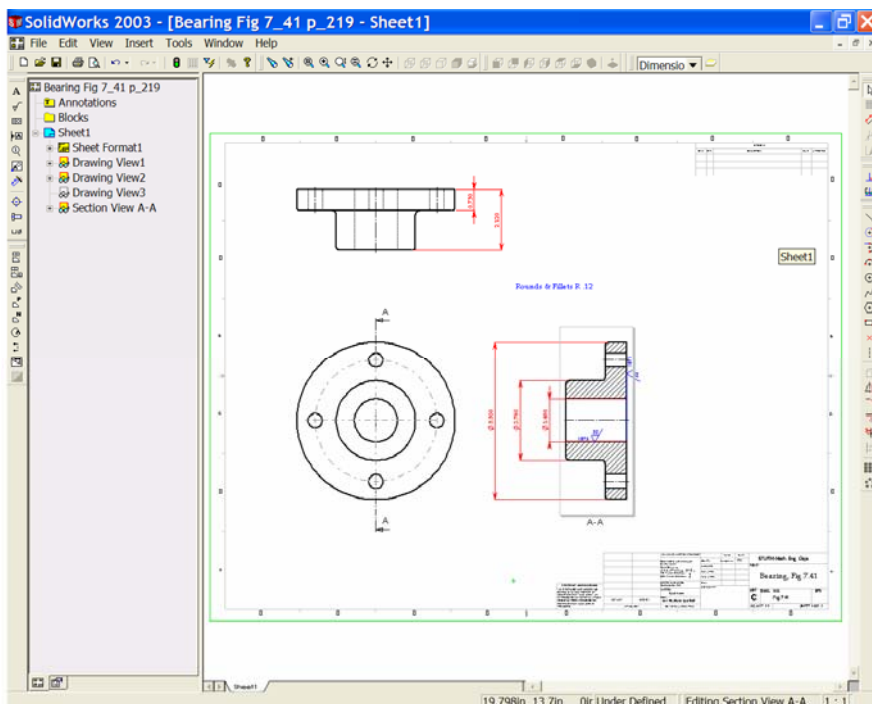

Figure 10
15. Create layers for Dimensions and for Machine Symbols. Set the machine symbols layer current and add the symbols as shown in Figure 10. The R_a value should be 32μ in. and Machine Allowance is to be $3/16''$ (.1875"). Use the 'Font' to control the size of the symbol.
17. From 'Insert' Model Items, insert the dimensions on the dimensions layer. Re-arrange the dimensions as shown in the Figure 10.